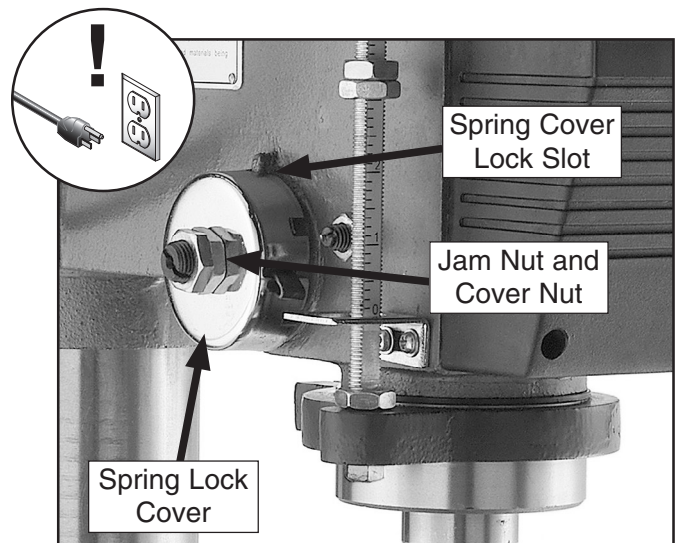

Figure 42. Feed shaft return spring assembly.
2. Wipe off any oil on the spring lock cover so it does not slip in your fingers when you hold the cover from spinning (see **Figure 42**).